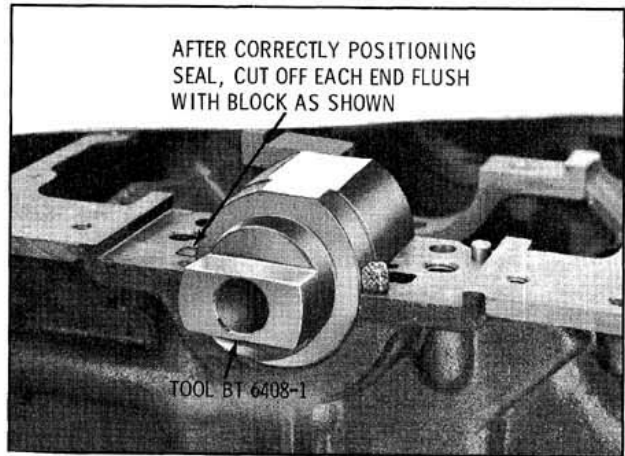
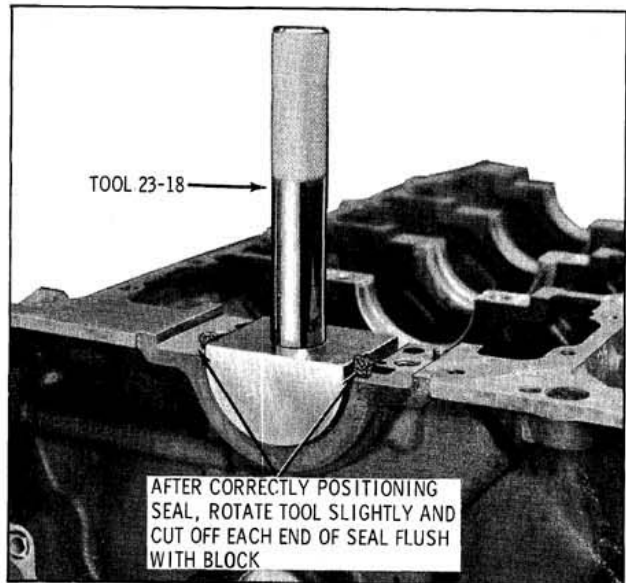

Fig. 3-100 Installing Rear Main Oil Seal - Upper Half 330 Cubic Inch
Fig. 3-101 Installing Rear Main Oil Seal - Upper Half 425 Cubic Inch
2. Install a new rear main bearing seal. (Fig. 3-100 for 330 cubic inch engine or Fig. 3-101 for 425 cubic inch engine)